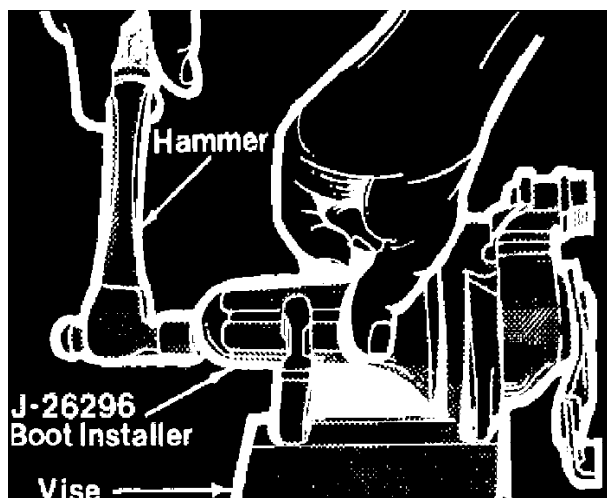

Fig. 6 Driving boot into caliper
9. With tool J-26296, drive boot until seal bottoms in caliper housing, **Fig. 6**.